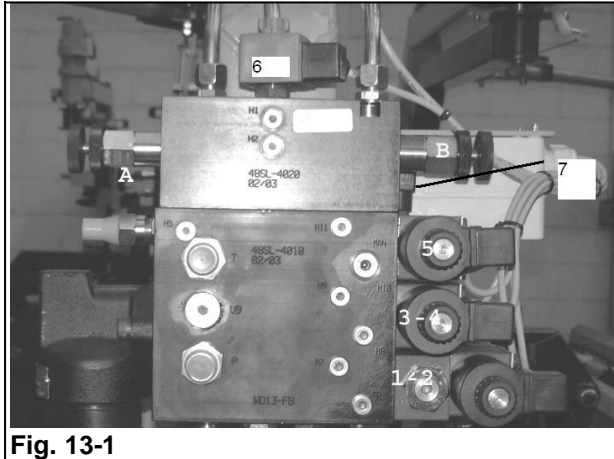

Fig. 13-1
- 8.1 Start the tractor and let it run at approx. 1000 revolutions per minute. Lift the machine clear of the ground. The oil flow to the wrap arm and lower Rollers is adjusted by two wheels which are situated at the front of the machines adjustment valve block. (See A-B Fig. 13-1)
- 8.2 The Wheel (See B Fig. 13-1) to the right is used to adjust speed of the wrapping arm.
Use a black marker to mark a line on the middle of the film wrapped on the bale. Adjust the control wheel (See A Fig. 13-1) for roller speed, so that the marker line is just covered. Approx. 52-53% is the ideal overlap. (See fig. 9-2).